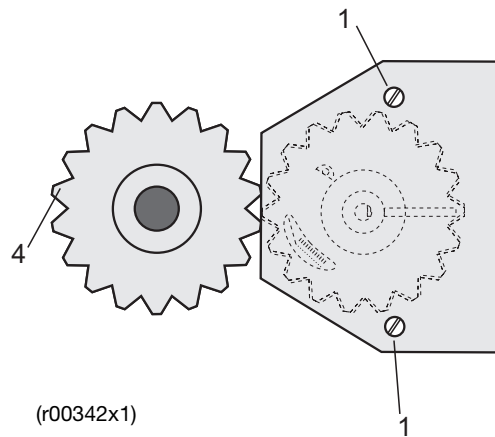

Fig. 12:Mounting position (actuator position: thrust rod downward)
- align the sensor and its gears with the actuator; set the first toothed gear in 03.00 o'clock position (see Figure 12) onto the drive shaft gear (4).
- connect the plug (5) of the ribbon cable to the PCB.
- fasten the screws (1) tightly.